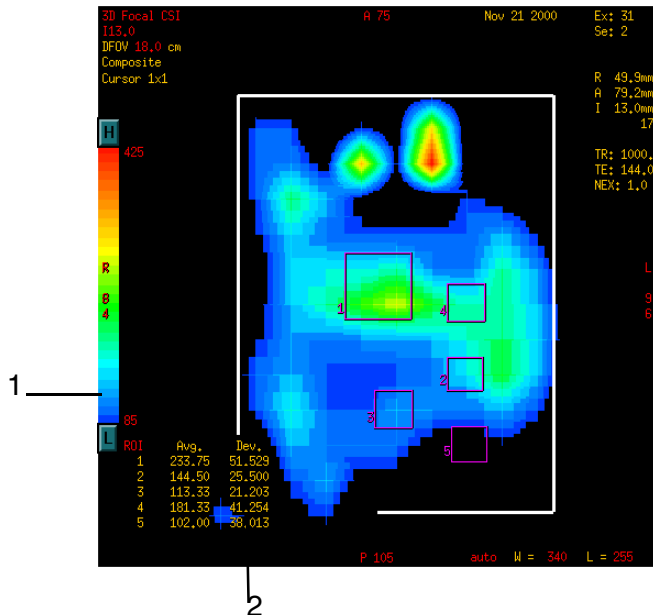

Figure 14: Metabolite image viewport display.
Average or Ratio metabolite maps corresponding to the protocols selected with **[Get Protocol]** or **[Function]** are displayed and manipulated in the lower left (LL) viewport. In the metabolite image viewport, the prescribed PRESS voxel is overlaid (the voxel is outlined in white) on the map as shown in Figure 14.
to move the listed information to another area of the viewport. In the example (Figure 14), ratios from five ROIs are listed. The “Dev.” column (2) displays the standard deviation of the selected metabolite.
You can adjust the window width and level of the map by clicking and dragging the middle mouse, or by clicking on the active annotations at the bottom left of the viewport – “W = 340” or “L = 255” in Figure 14. The range of the colorscale (1) at the left edge of the viewport is related to the window width (W) and window level (L) as
You can adjust the colorscale maximum and minimum by clicking on the numbers at the top and bottom of the colorscale; 425 and 85 in Figure 14. If you select **[H]** at the top of the colorscale, those pixels in the map with an intensity larger than the maximum colorscale intensity are colored black. If you select **[L]** at the bottom of the colorscale, those pixels with an intensity less than the minimum colorscale intensity are colored blue. The **[H]** selection allows you to quickly see the maximum areas on any map.